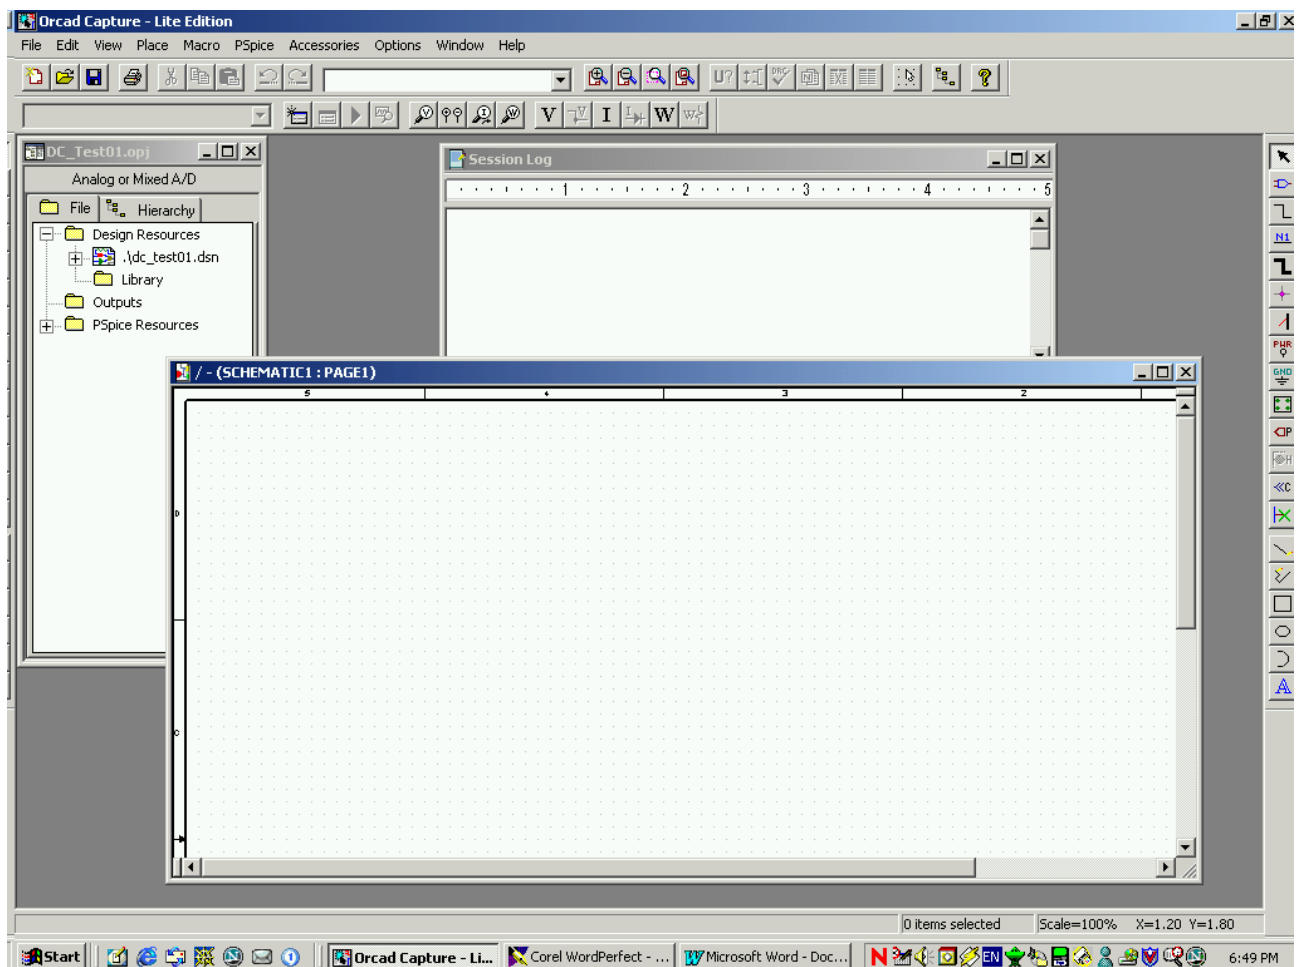
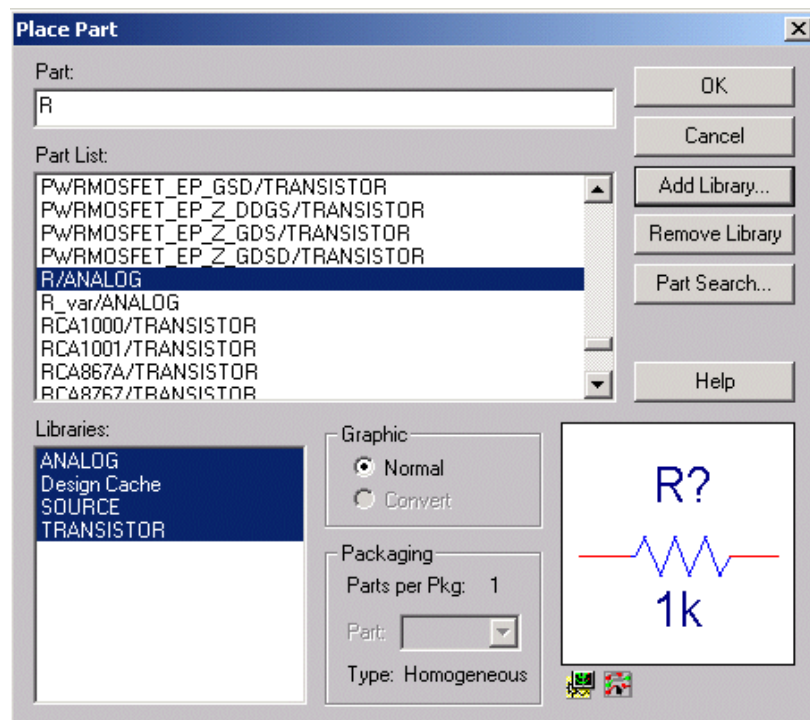
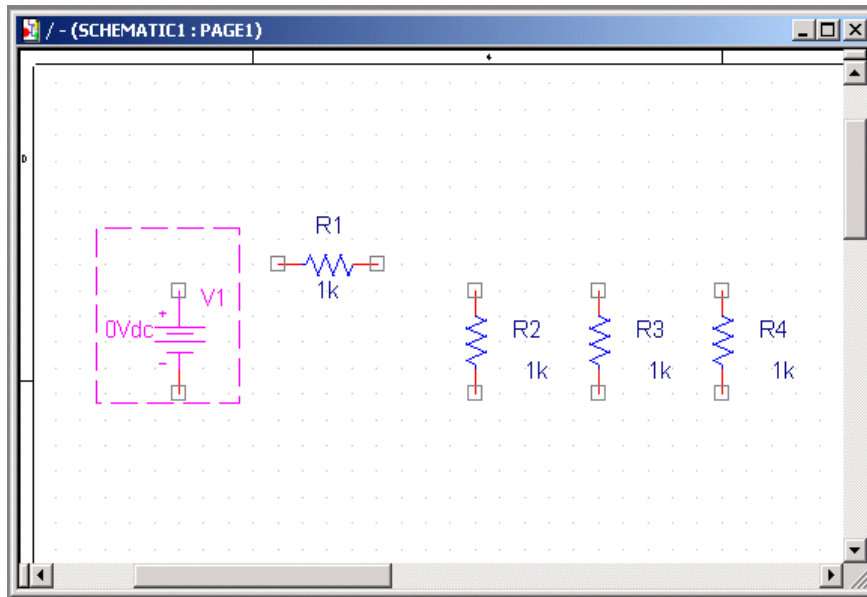

Fig. 3.
Fig. 5.
Fig. 6. Parts have been placed.
This produces the screen shown in Fig. 3, which contains several windows. We will draw the circuit in the window titled SCHEMATIC1: PAGE1.
- To draw the parts we use the **Place -> Part** command to bring up the window shown in Fig. 5. From the Part List: box choose a resistor (R/ANALOG). If you cannot find a resistor on the part list, click on the **Add Library...** command button and choose analog.olb file from the Libraries: window. (The libraries are normally installed in the folder: `... \OrCAD_10.0_Demo\tools\capture\library\pspice .`) At this point, you can move the cursor around on the *SCHEMATIC* window and place a resistor each time you click the left mouse button. The orientation of the resistor symbol can be rotated by simultaneously pressing the “Ctrl” and “r” keys <Ctrl+r>. Place four resistors to resemble the pattern in Fig. 3. Then, click the right mouse button and select **End Mode** from the pop-up menu (or press the “Esc” key). Next, place the voltage source (VDC) by again using the **Place -> Part** command. Your *SCHEMATIC* window should look like the one shown in Fig. 6.